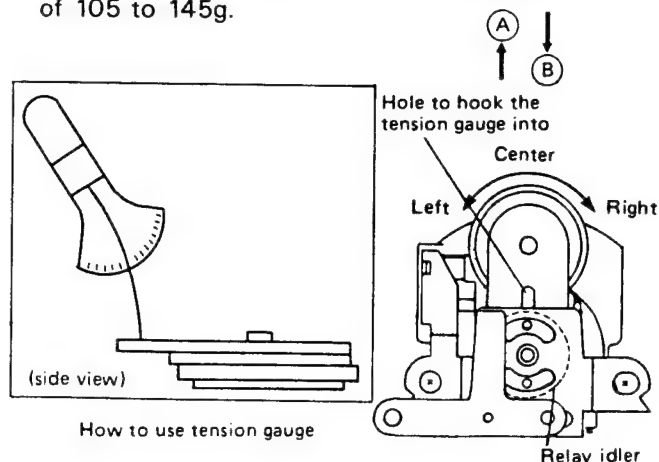

Figure 14.
2. Move the reel idler to its center position as shown in Fig. 14.
3. Using a tension gauge, push the reel idler in the direction of arrow  $\Rightarrow$  (A) in Fig. 14, so that the reel idler moves away from the relay idler.
4. Release the force gradually in the direction of arrow  $\Rightarrow$  (B) in Fig. 14, so that the reel idler touches the reel motor pulley again. Check that the reading on the tension gauge is within the specified range of 105 to 145g.